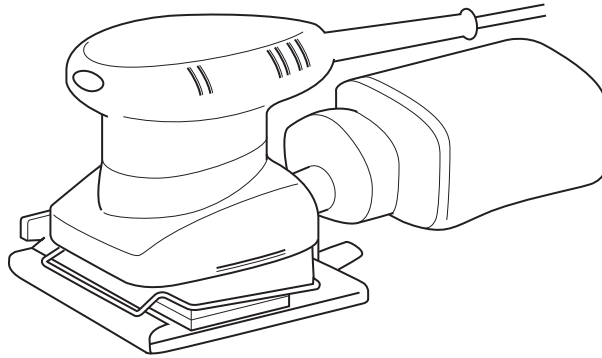

Fig. 11.3
- (d) The palm sander shown in Fig. 11.3 could be used to prepare the parts of the table to take a clear finish.